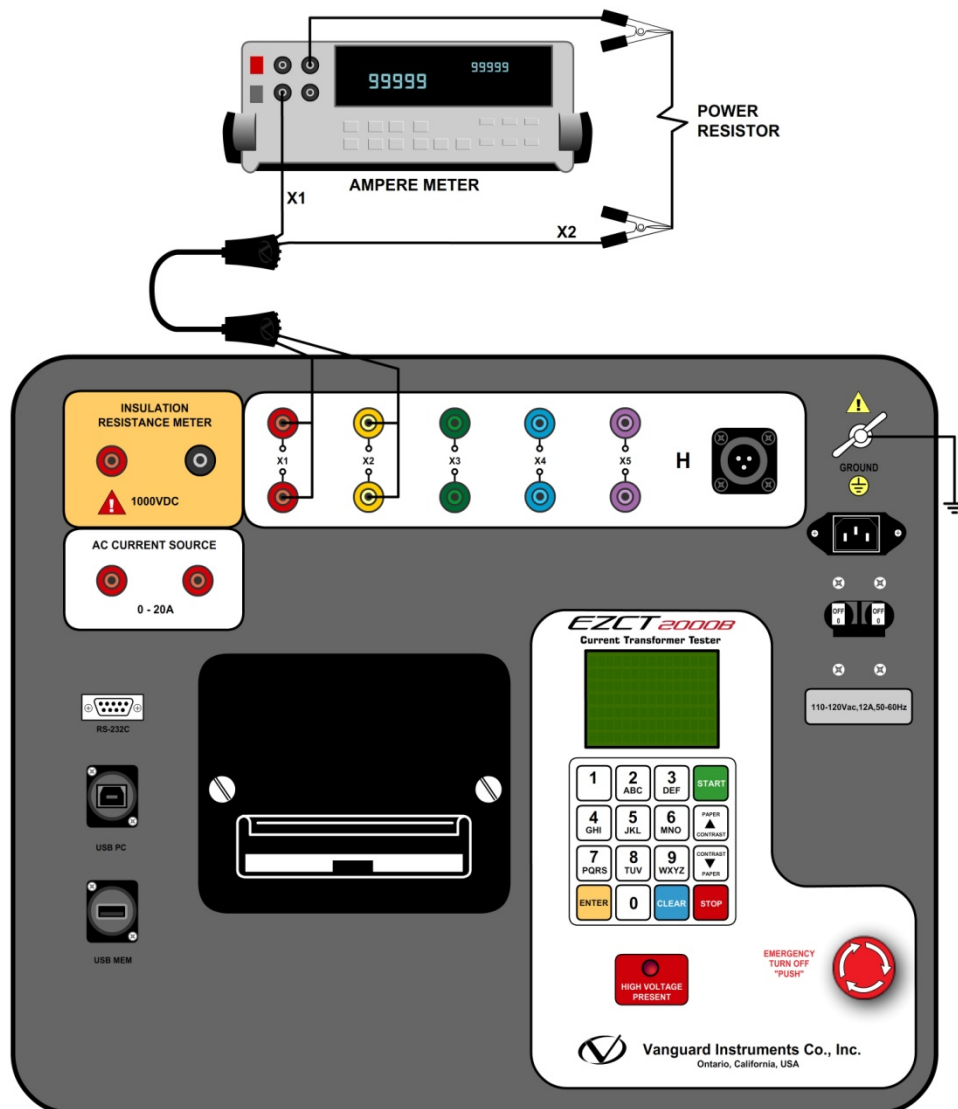

Figure 22. EZCT-2000B I_x Verification Test Connections
- Connect the X cables to a power resistor and an RMS ampere meter as shown in Figure 22.